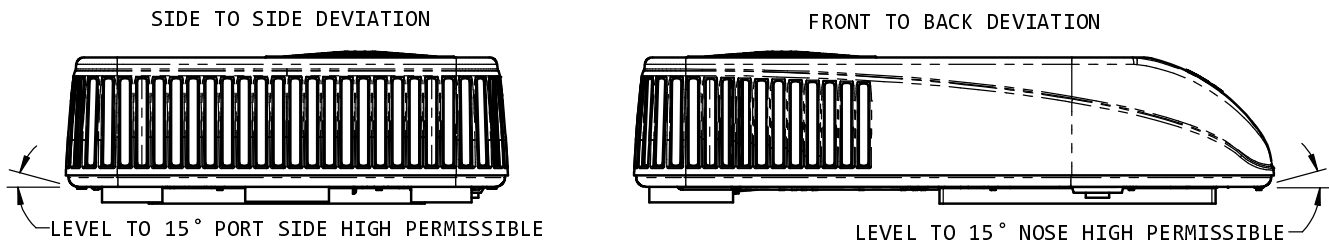

FIGURE 2
- C. The air conditioner must be mounted as near level front to rear and side to side as possible when the vehicle is parked level. Figure 2 shows the maximum allowable degree deviations.